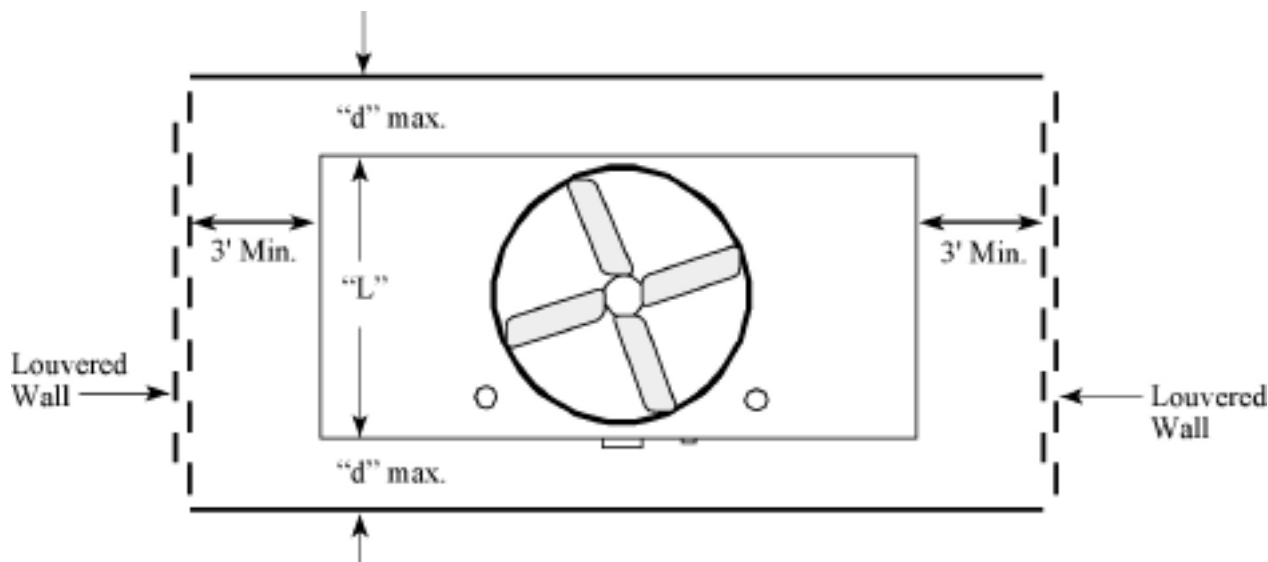

Figure 8: Plan view of a dual air intake unit in enclosure with louvered walls
- a. The air intake directly faces the louver or slot locations as shown in Figure 8 or 9.